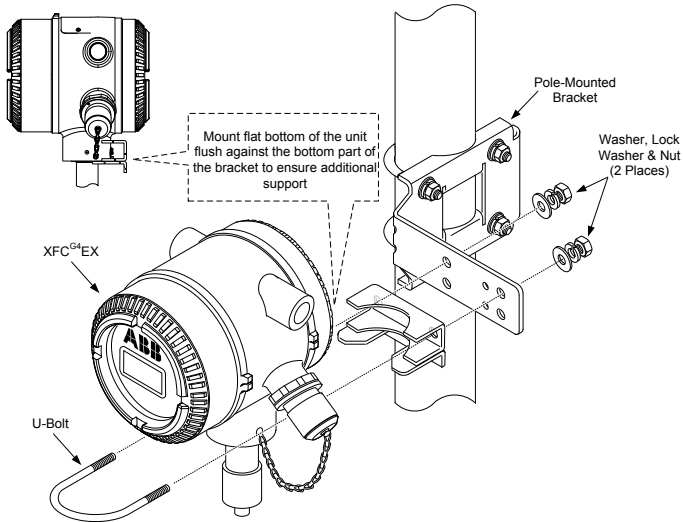

Fig. 5: Type C installation configuration
1. Position and align the provided back clamp to the pole mount bracket (Fig. 5).